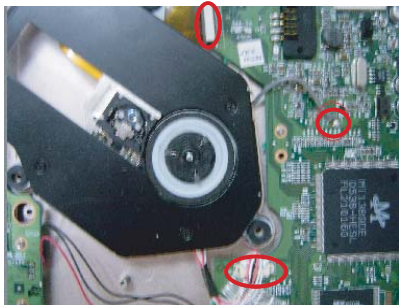

Fig.3
3. Remove DVD driver and main board as Fig.3,4